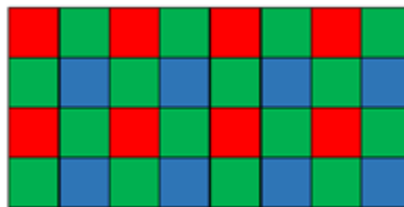
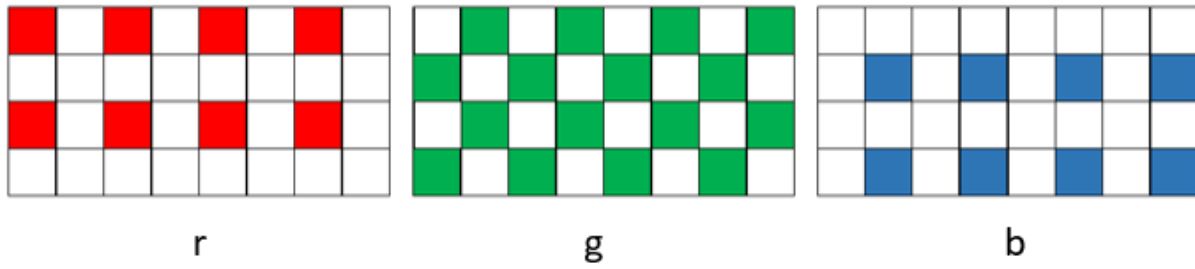

Figure 6: Raw Image with RGGB Bayer pattern
Figure 7: Masking channels
1. **Mask Generation:** From a raw Bayer image shown in Figure 6 three r, g, and b masks are generated shown in Figure 7.